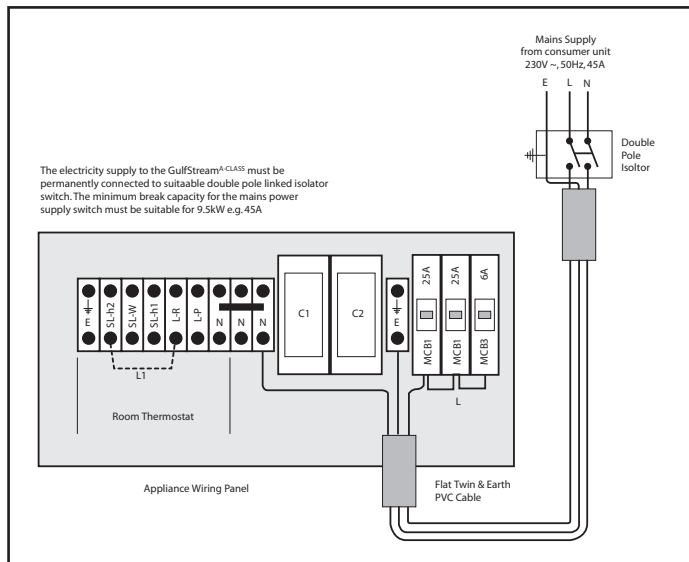

Figure 4.5 External mains wiring to the appliance
- The appliance is supplied with 2m long, 10mm² (twin + E) flexible cable and it must be connected to a local (not more than 2m away from the appliance) 45A double pole isolator having a contact separation of at least 3mm in both poles as shown in figure 4.5.